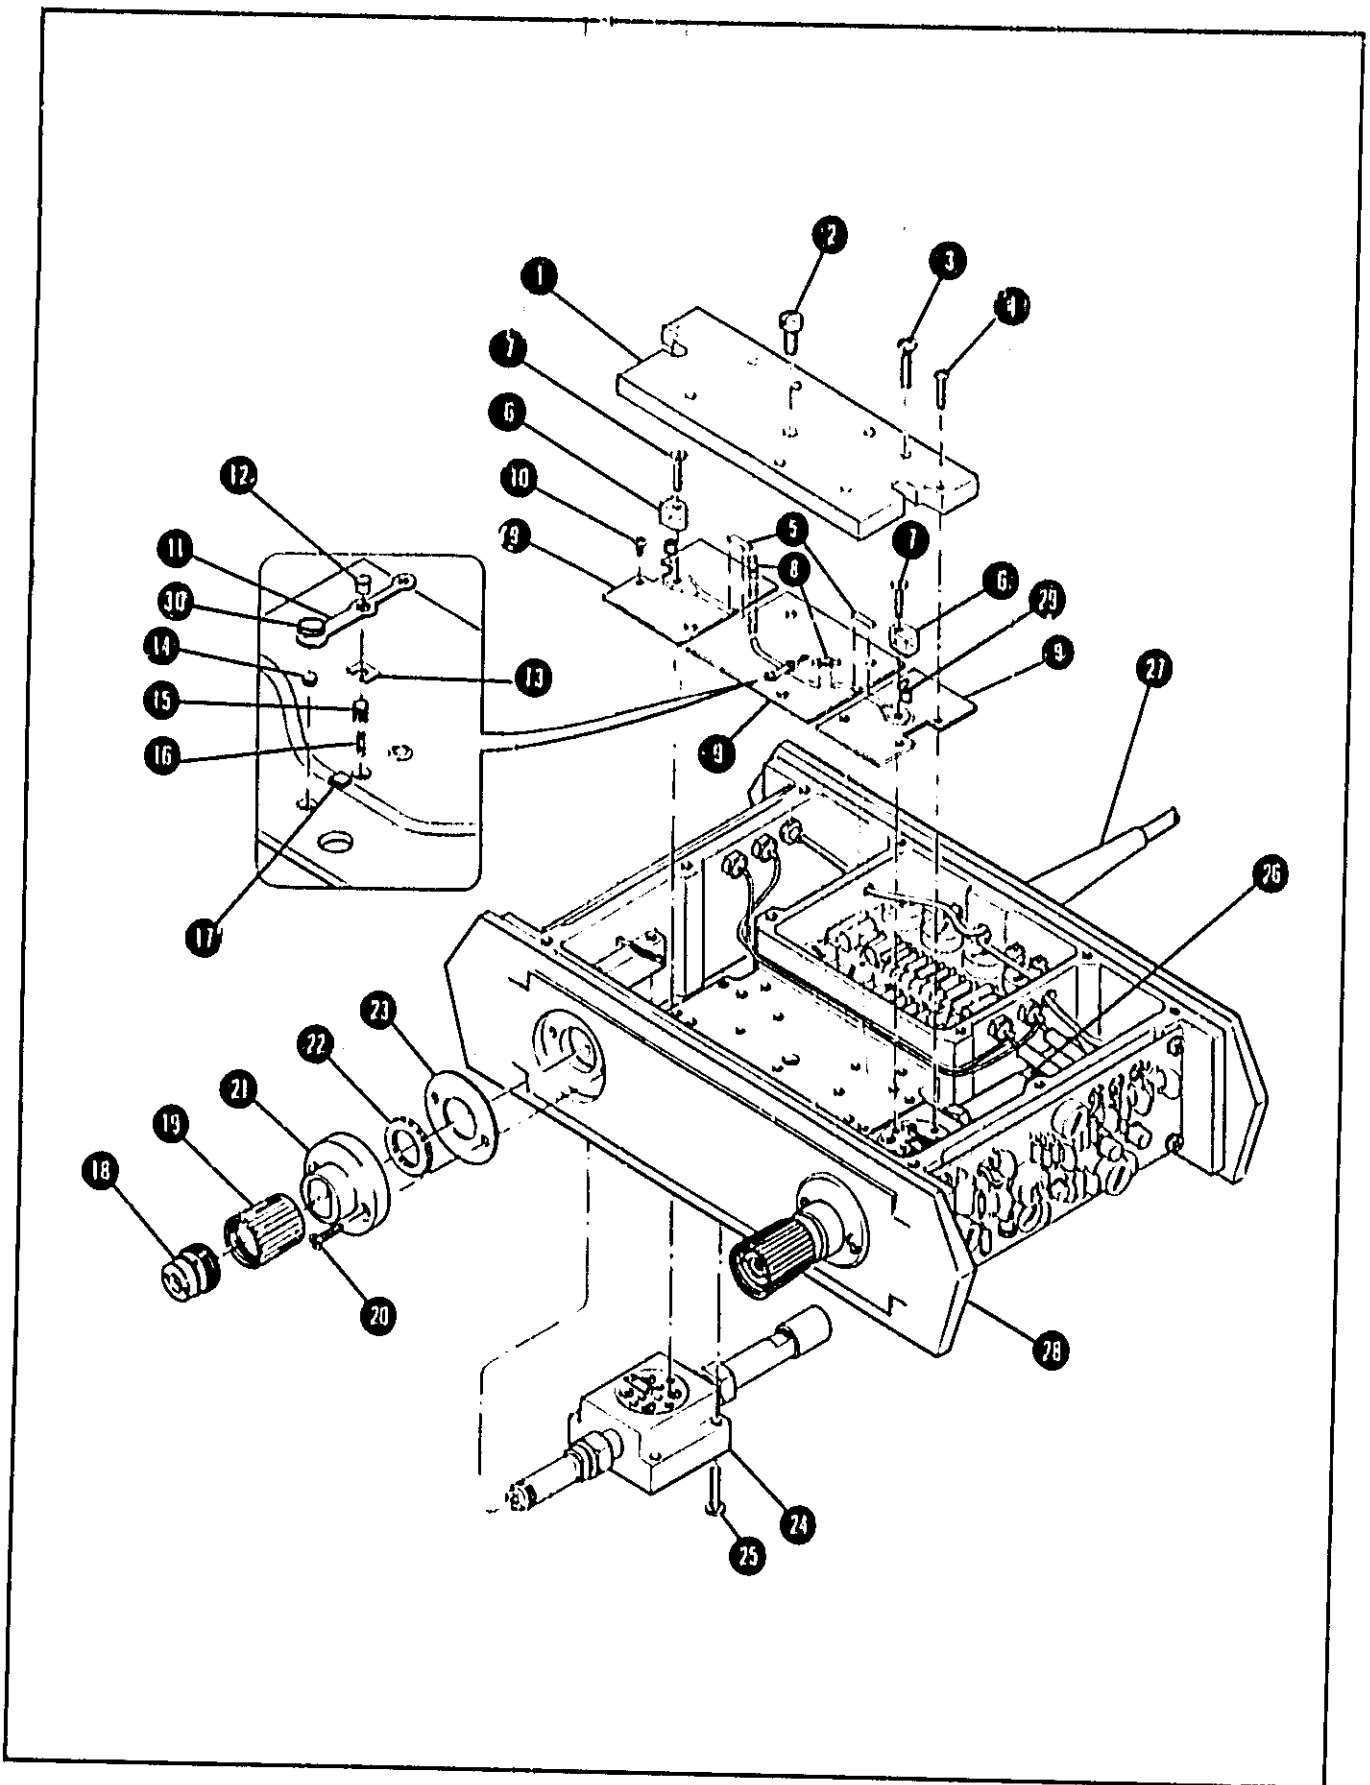

Figure 8-9. 8411A Exploded View
8-40. The locations of chassis-mounted parts and major assemblies is shown in Figures 8-9 and 8-20. The locations of individual components mounted on a printed circuit board are shown opposite the appropriate schematic diagram. The part reference designator may be found from the schematic diagram.
1. Remove APC-7 connector (Figure 8-9, Items 18 and 19) using spanner wrench, HP Stock Number 5060-0237 (supplied in Accessory Kit 11587A and APC-7 Connector Tool Kit 11591A).
2. Turn the 8411A upsidedown and remove plastic stripline cover (Figure 8-9, Item 1).
3. Remove step generator diode (12) and Mylar shim (13) under diode.
1. Clean solder from hole in stripline board (Figures 8-9, Item 9).
5. Reinstall step generator diode (12) and Mylar shim (13).
6. Remove plastic screw (2) from the plastic stripline cover (1), and install cover.
7. Install plastic screw (2) in stripline cover (1).
- a. Remove plastic stripline cover (Figure 8-9, Item 1).
- b. Remove step generator diode (12).
- c. Install new diode, with Mylar shim (13) positioned as shown in Figure 8-9.
- d. Remove plastic screw (2) from the plastic stripline cover (1) and replace cover.
- a. Remove metal screws from plastic stripline cover (Figure 8-9, Items 3 and 4) and remove cover.
- b. Remove step-recovery diode (12) and Mylar shim (13) under diode.
1. Remove plastic mixer coax clamp (6) and two metal screws (10) from end section of stripline.
2. Unsolder one end of stripline jumper (5) and remove end section of stripline.